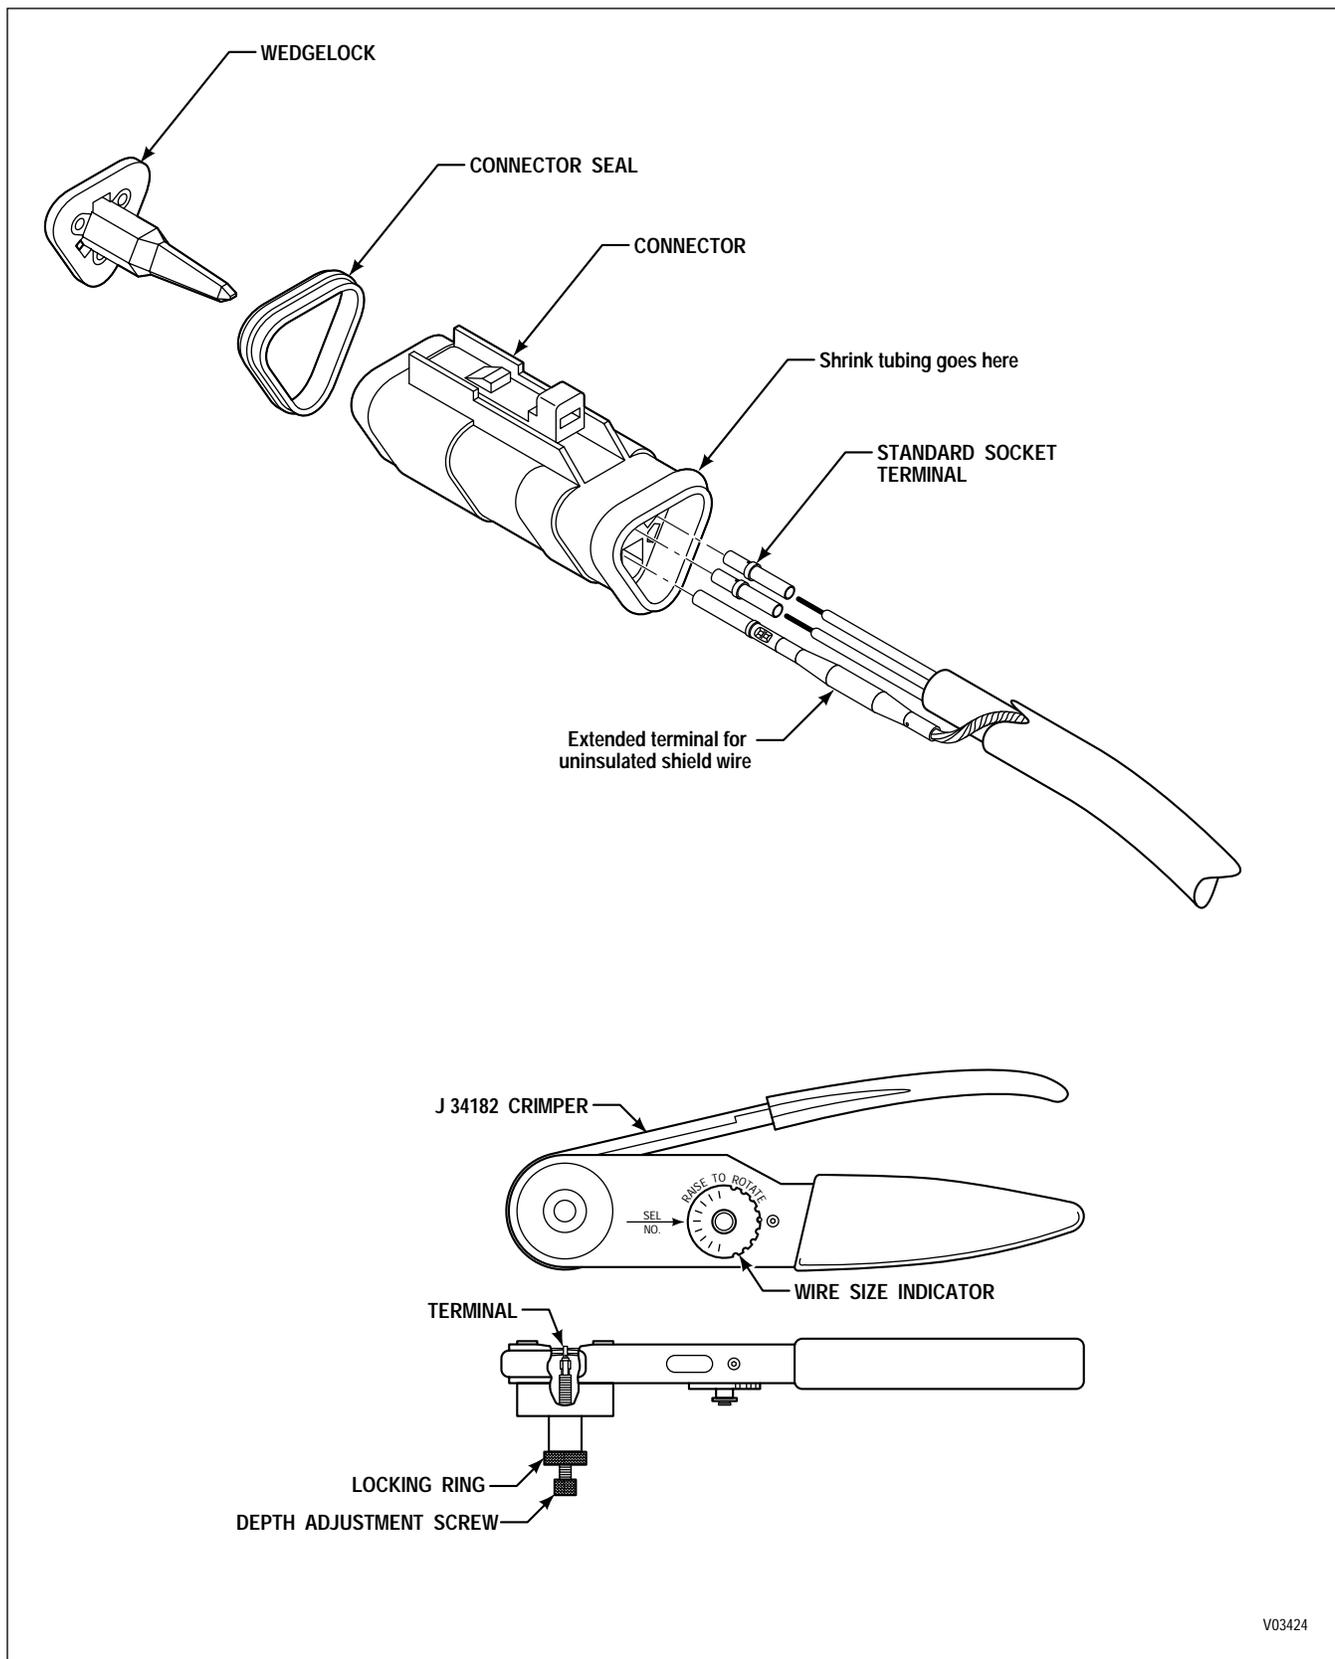

Figure C-10. Deutsch DT Series Connector (3-Way J1939 Interface)
B. Terminal Removal (Refer to Figure C-10)
C. Terminal Crimping (Refer to Figure C-10)
2. Push the terminal and wire into the connector until it locks into position (refer to Figure C-10). Check the front of the connector to see that the terminal is at the same height as other terminals. Tug on the wire at the rear of the connector to ensure that the terminal is locked in place.